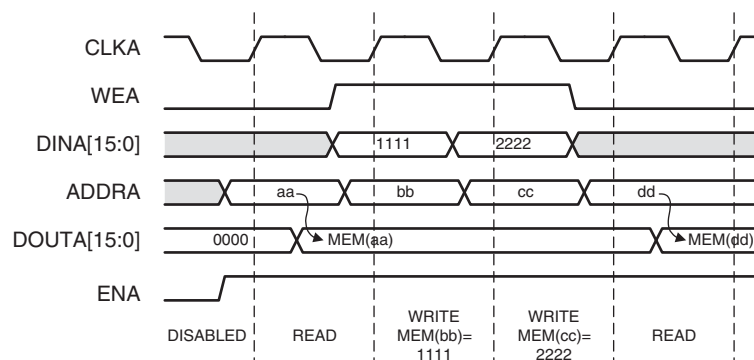

Figure 3-11: No Change Mode Example
- **No Change Mode:** In NO_CHANGE mode, the output latches remain unchanged during a Write operation. As shown in Figure 3-11, the data output is still the previous Read data and is unaffected by a Write operation on the same port.